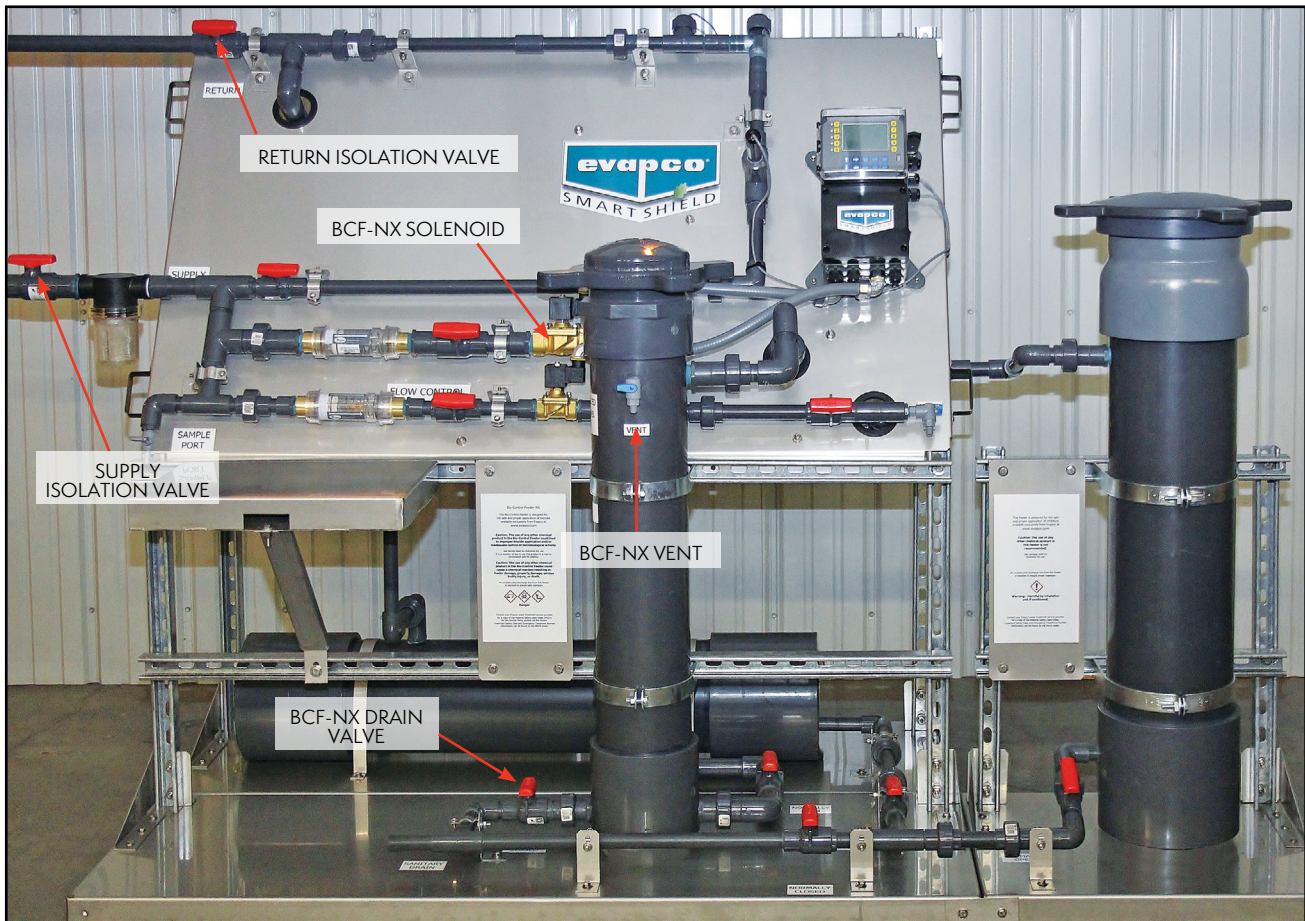

Figure 22 – Loading the BCF-NX
- 7.3.3 Close the Supply and Return Isolation Valves on the **MRF** system. See Figure 22.
- 7.3.4 Open the **BCF-NX** Drain Valve and then the Vent to drain the feeder to sanitary drain. Note that it may not be necessary to completely drain the feeder for reloading. See Figure 22.